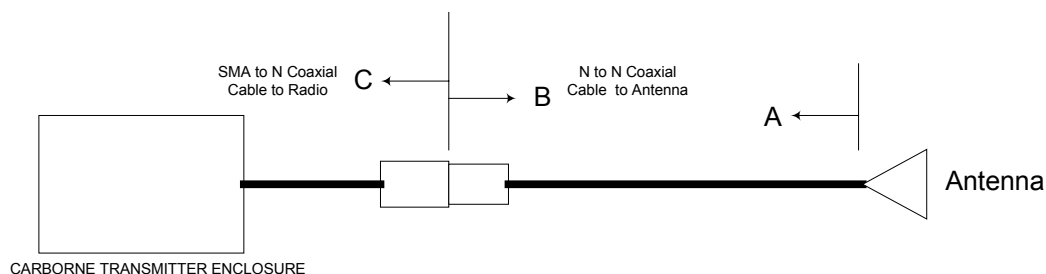

Figure 6-1 - Carborne Power Measurements
1. RF coaxial cable tests - this test will be performed using the Anritsu Site Master 251C Antenna & Cable Analyzer. The Anritsu 251C will be used to measure power output at point "A". This reading will be recorded in the CRE Power Output column of the Test Record Form in Annex TR and, together with antenna gain, will be used to determine compliance with the RF output power requirement. The Anritsu 251C will also be used to measure reflected power in the cable system between the lightning arrestor to the antenna ("B" to "C"). This reading will be recorded in the Cable Reflected Power Loss column of the Test Record Form in Annex TR. These tests will be as per Figure 6.1 below: